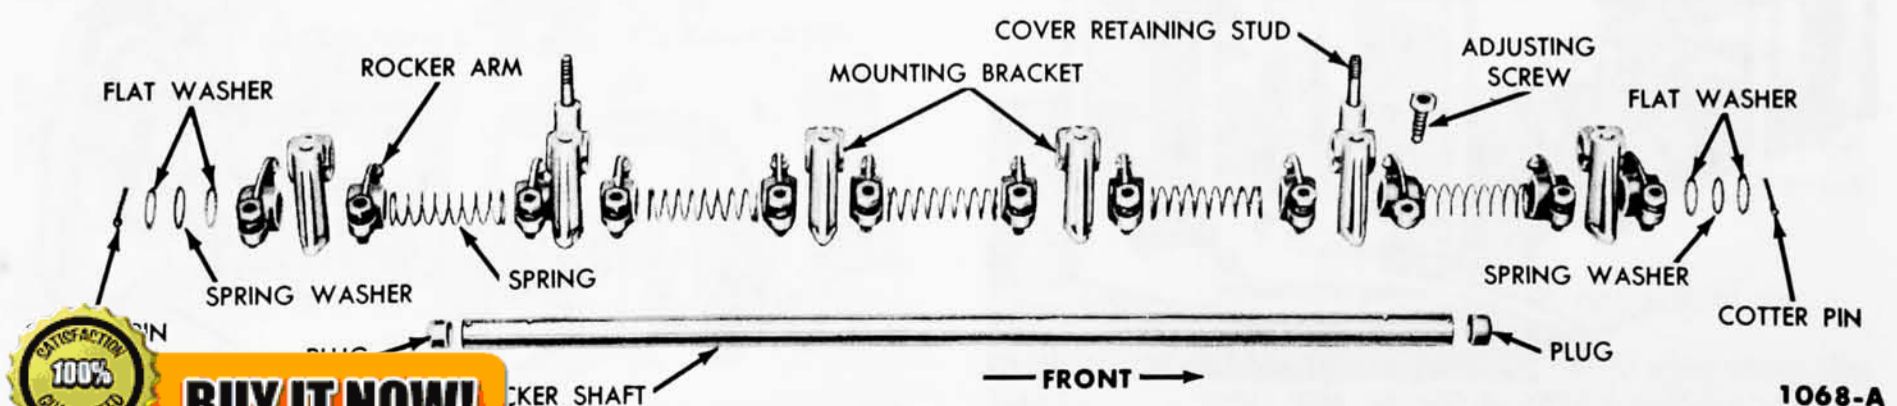

Fig. 17—Rocker Arm Mechanism
3. Install a flat washer, spring washer, another flat washer, and a cotter pin on one end of the shaft. Install the rocker arms, support brackets, and springs (Fig. 17). Install the remaining flat washers with the spring washer between them, and install the cotter key.